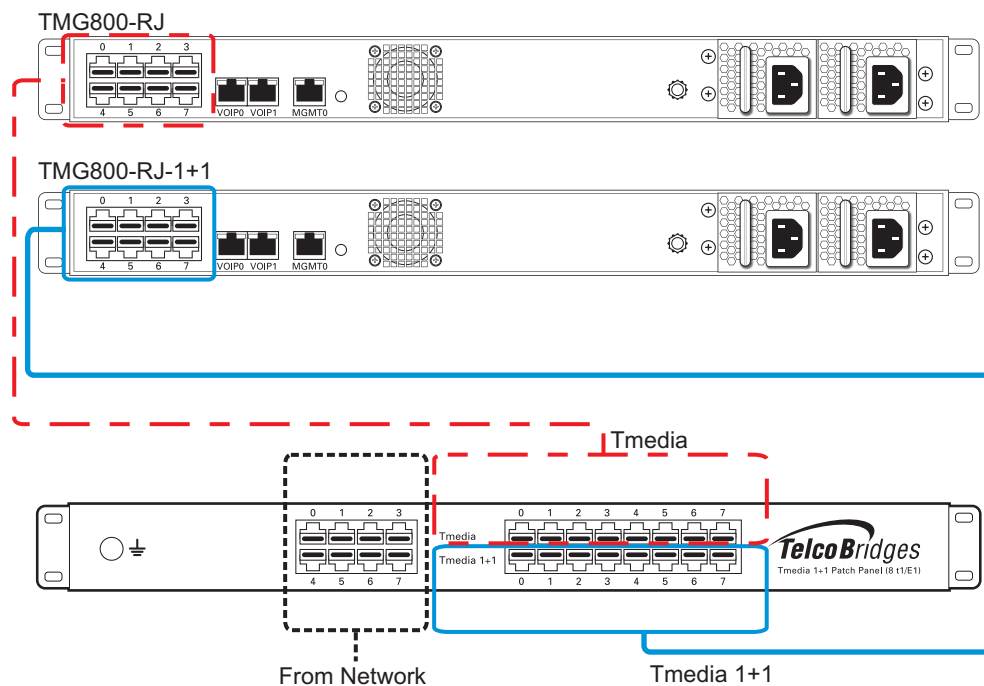

Figure 2.11 TMG800-RJ and TMG800-RJ-1+1 connecting to the TDM 1+1 8/T1/E1 patch panel
1. Connect T1/E1 lines 0-7 of the network section of the patch panel to the remote equipment. See figure 2.11 on page 25.